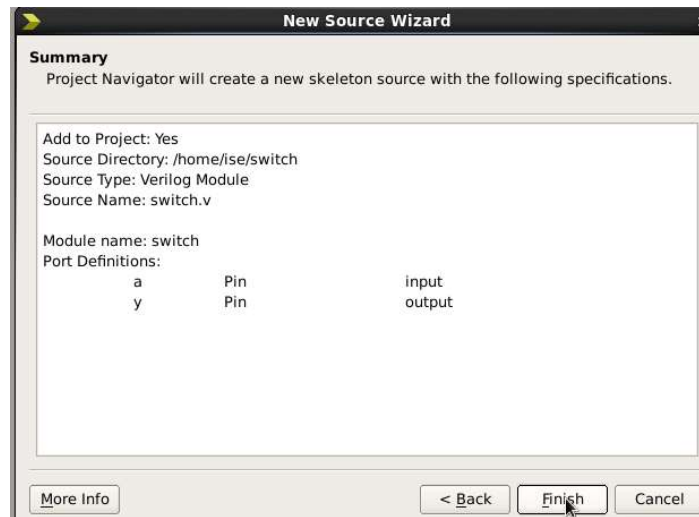

Fig 1.8: Summary Window
9. **Summary** window of the **source** file will be displayed (Fig 1.8). Check the source summary and click on Finish.